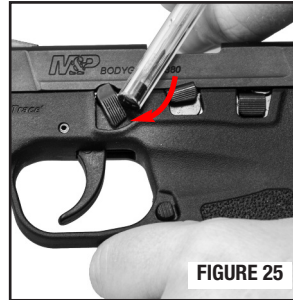

FIGURE 25
- Rotate the takedown lever down past the 6 o'clock position (FIGURE 25).
NOTE: A non-marring tool such as a plastic pen may be needed to help rotate the takedown lever down (FIGURE 25).